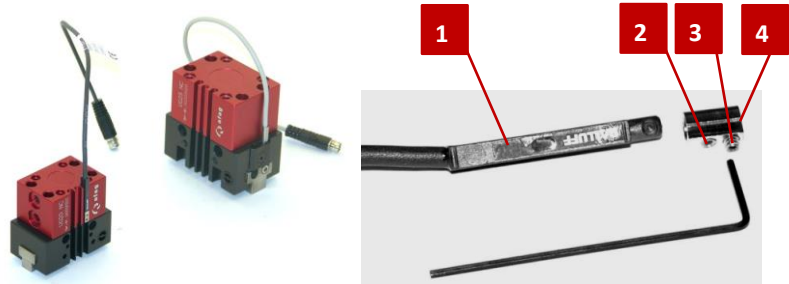

Fig. 8 Installation of the inductive sensors
1. Insert the proximity switch (Fig. 8, 1) with the mounted clamping piece into the C-slot.
2. Fasten the proximity switch in the C-slot with the fastening screws on the clamping piece (Fig. 8, 4).